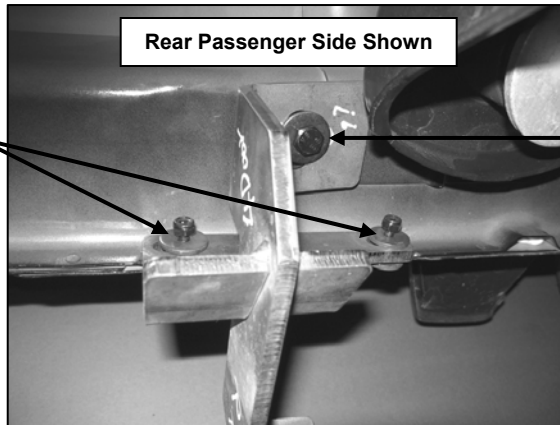

Figure 3
6. Locate the rear passenger side factory hole on the side panel. Attach Rear Passenger Side Mounting Bracket by using (1) 8-1.25mm x 35mm Hex Head Bolt, (1) 8mm Lock Washer, and (1) 8mm Fender Washer (Figure 3). Do not tighten at this time.
7. Attach the Rear Passenger Side Mounting Bracket to the pinch weld using the included (2) 6-1.00mm x 25mm Allen Bolt, (2) 6mm Nylock Nut, and (4) 6mm Fender Washers (Figure 3). Do not tighten at this time.